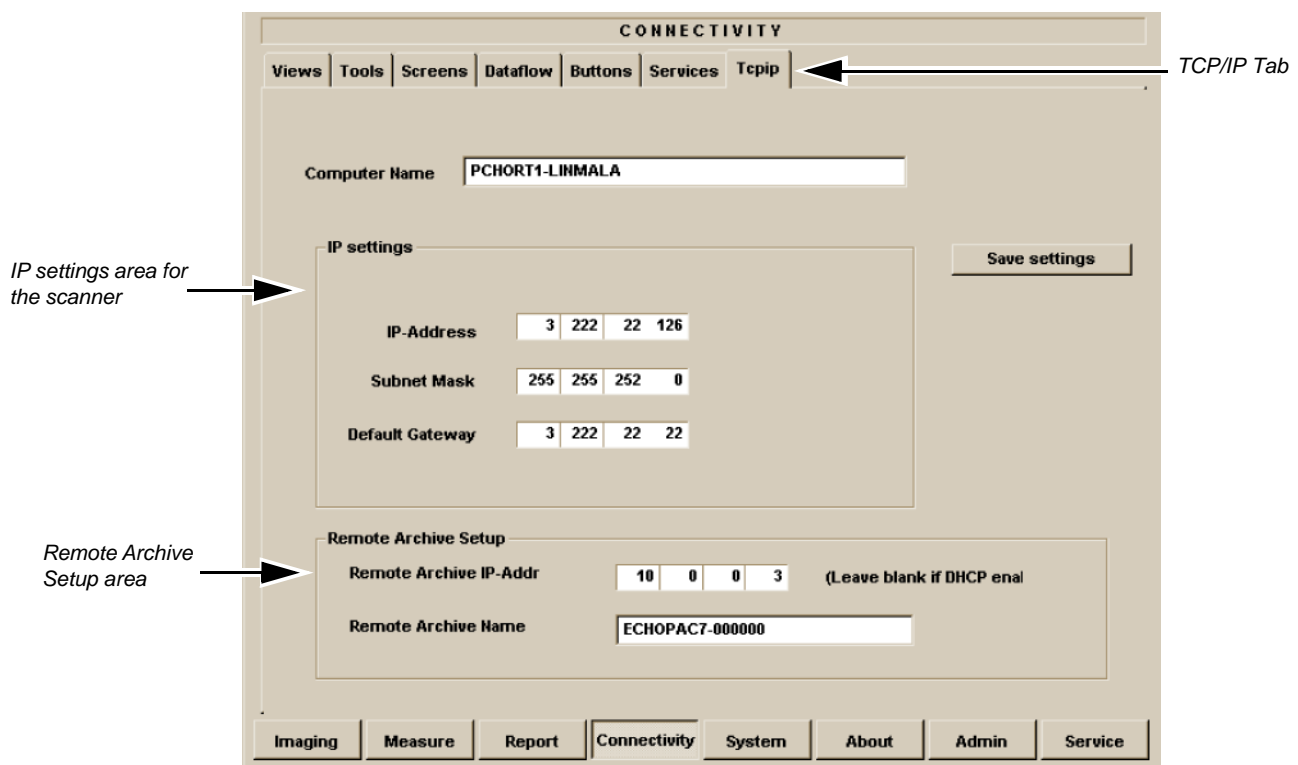

Figure 3-116 TCP/IP Set-up Screen, Overview
- 3.) Select the TCP/IP TAB (it is named Tcpi). (See example in Figure 3-116.)
In the Remote Archive Setup area of the screen (see example in Figure 3-116.), enter the;